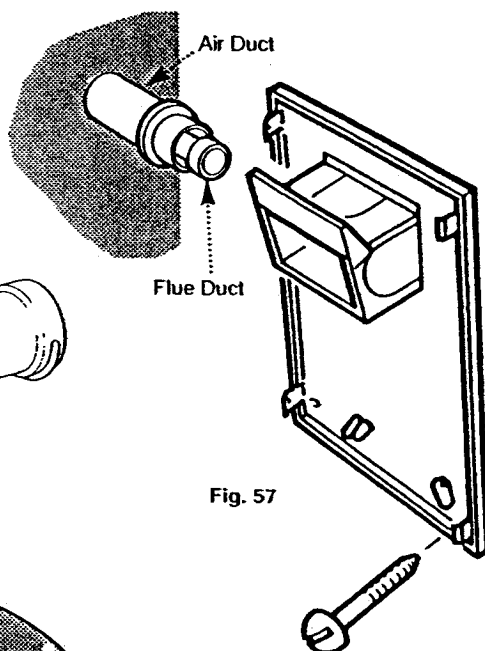

Fig. 57
5. Ensuring all seams of the air duct are uppermost, engage the air duct into the hole previously cut in the wall and through holes in other partitions (cupboards, walls, etc). Ensure that the bayonet ends of the air duct and flue are clear of the previously marked back plate area or that they overhang it by no more than 50mm (2in). Ensure that the 'O' ring seal is in position against the sealing flange of the air duct (Fig. 57).
6. Secure the back plate to the wall at the previously drilled anchorage points with suitable screws. Before finally tightening the screws, check that the assembly is level (Fig. 57).